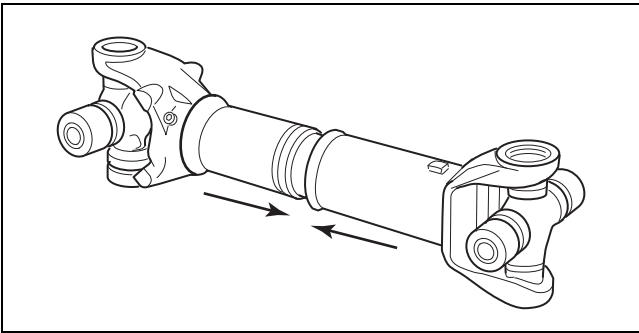

Figure 8.23
8. Push together the driveline sections. Figure 8.23.